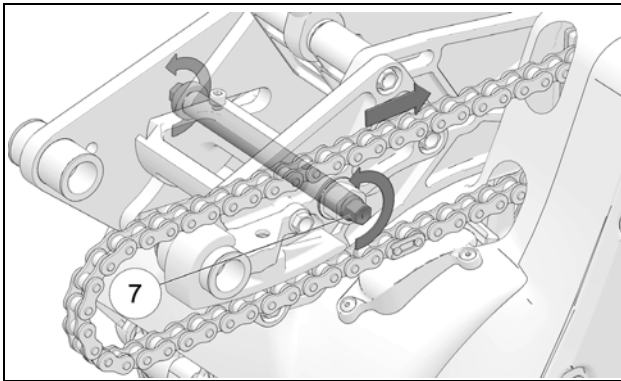

Figure 37
- Rotate eccentric bolt (7) to adjust chain tension as required. Use a 12-mm socket. Figure 37.